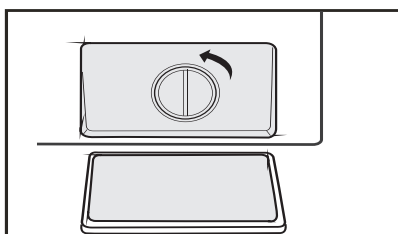

Fig. 15
2. Turn the filter to open as shown and take out any foreign matter. (Fig. 15)